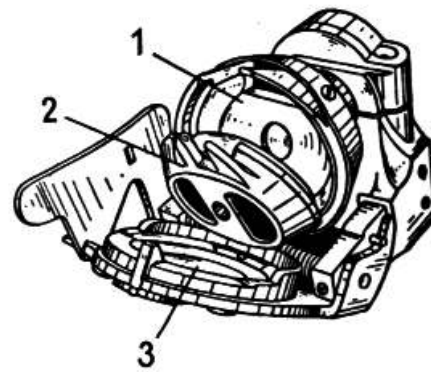

Fig. 8 Rotary hook with floating bobbin case
- a. The rotary hook with floating bobbin case. This type of sewing hook, as the name implies, features a bobbin case which floats in the hook bowl and is kept from falling out by a retainer (Fig. 8).